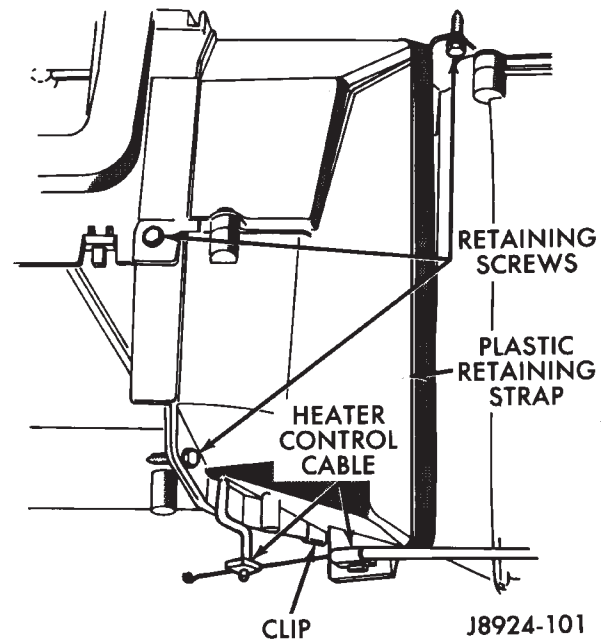

Fig. 24 Evaporator Housing
- (7) Cut the plastic retaining strap that retains the evaporator/blower housing to the heater core housing (Fig. 24).
- (8) Disconnect and remove the heater control cable.
- (9) Remove the clip at the rear of the blower housing flange and remove the retaining screws.